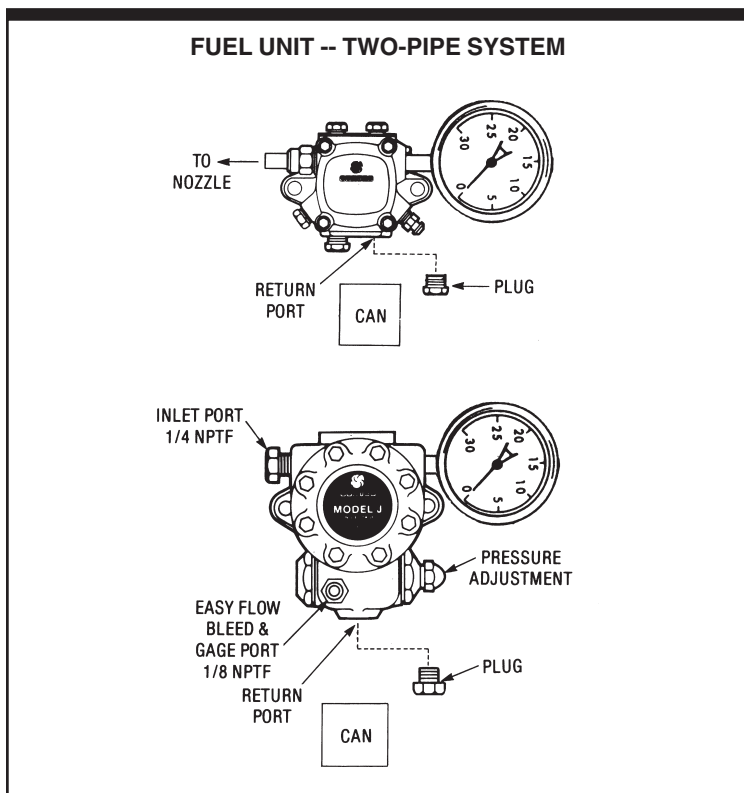

FIGURE 2 VACUUM GAGE LOCATION FOR TWO-PIPE SYSTEM
- Step 1. Remove inlet line from fuel unit and install vacuum gage in the inlet port (see Figure 2).